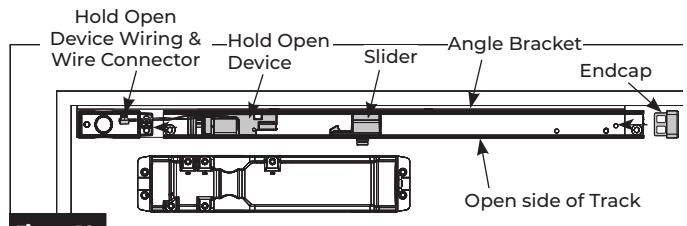

Figure 16
11. Slide the hold open mechanism, slider, and endcap onto the track (Figure 16). Properly orient the track so that:
12. Slide the track onto hook-up box and pull the hold open device wiring through the hook-up box opening. Use the screws provided to fasten track assembly to the angle bracket (Figure 16). **Tighten all three (3) screws. Slider should move freely.**